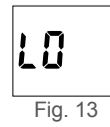

Fig. 13
2. If a "LO" message appears on the display, your Meter has detected that your blood glucose level is lower than 20 mg/dL (1.1 mmol/l). It is suggested that you review your testing procedure and test again with a new Test Strip to confirm the result. **If the same result occurs, consult your healthcare professional immediately.** (Fig.13)